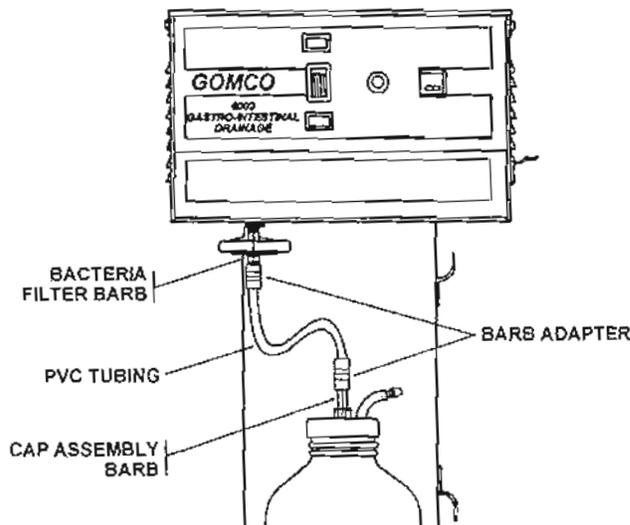

Figure 2-4. PVC tubing connections.
- (1) Locate and open a tubing package.
- (2) Connect the short (15-inch) length of PVC tubing to the bacteria filter barb fitting and to the cap assembly barb fitting stamped "TO PUMP" (fig 2-4).